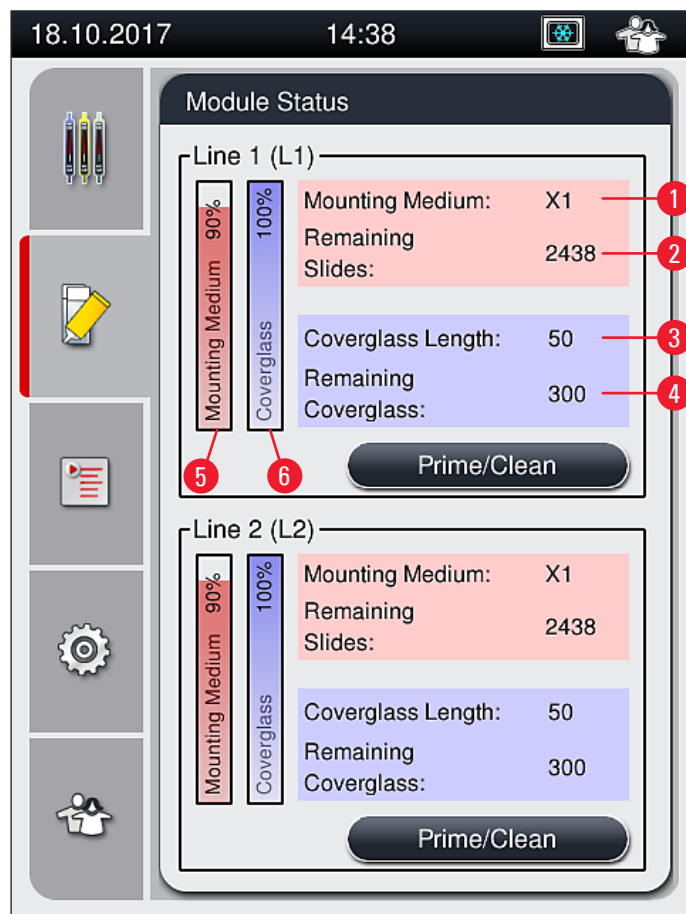

Fig. 23
7. The mounting medium bottles that are inserted are detected by the instrument software and the **Module Status** (→ Fig. 23) is updated.